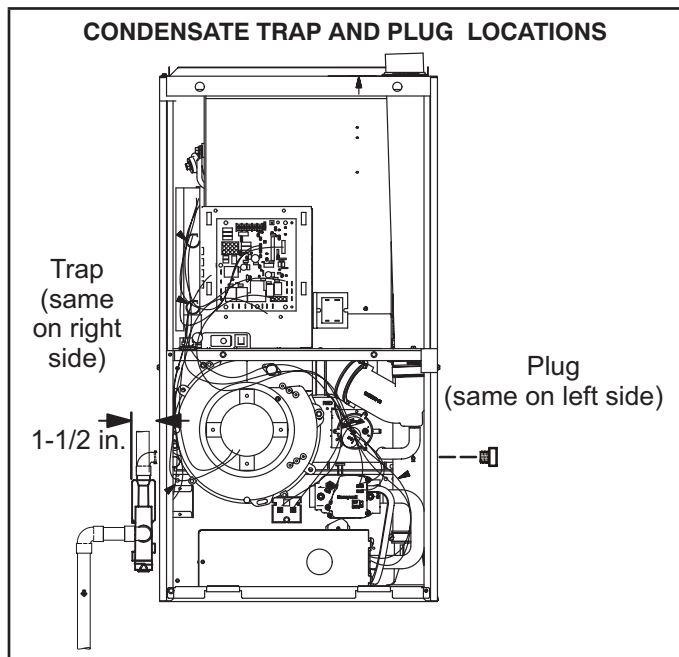
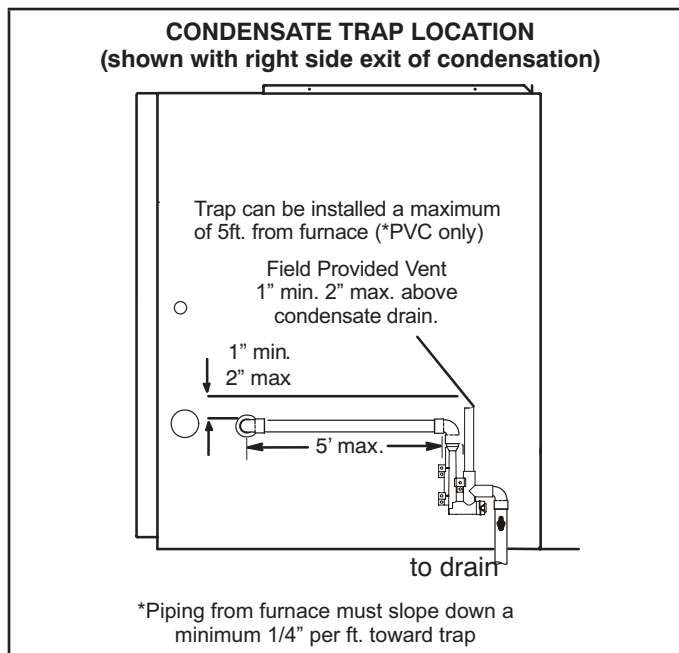

FIGURE 42
FIGURE 43
This unit is designed for either right- or left-side exit of condensate piping. Refer to FIGURE 42 and FIGURE 43 for condensate trap locations.
- 2 - Use a large flat head screw driver or a 1/2" drive socket extension and remove plug (FIGURE 42) from the cold end header box at the appropriate location on the side of the unit. Install provided 3/4 NPT street elbow fitting into cold end header box. Use Teflon tape or appropriate pipe dope.